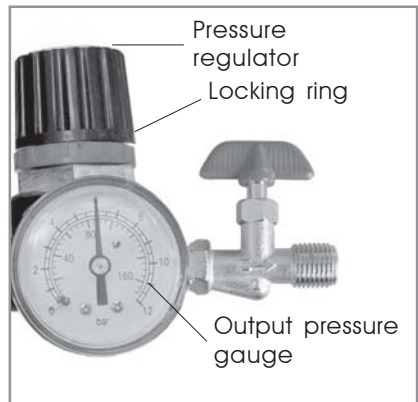

Figure 8
- 4 Tighten the locking ring by holding the pressure regulator firmly in place and rotating the locking ring anticlockwise until it tightens against the underside of the pressure regulator. See figure 8.